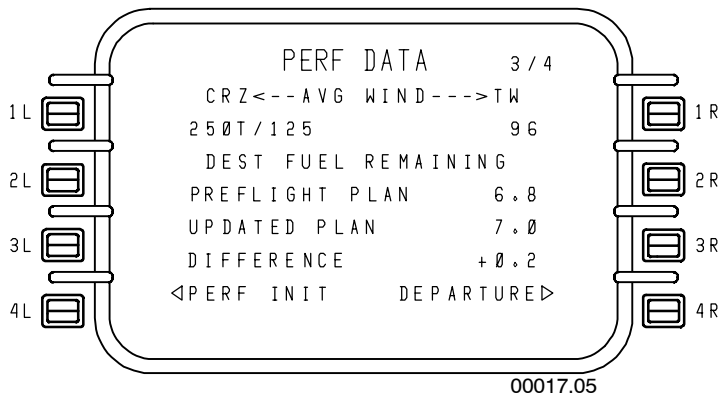

Figure 5-23
- **PERF DATA 3/4** – Figure 5-23 shows wind information and tracks fuel prediction changes since takeoff. No entries are permitted.